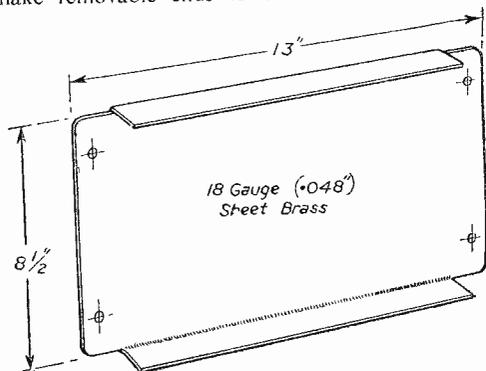

Fig. 1.—Sound and vision chassis showing edges bent down.
A good example of frame construction is shown in Fig. 1. This assembly was used for the "View Master," and it consists of $\frac{3}{4}$ in. \times $\frac{3}{4}$ in. \times $\frac{1}{8}$ in. angle uprights, tied together securely both top and bottom by removable end pieces.
Fig. 1 shows the sound and vision chassis, made from not less than 18 g. (048) thick brass sheet; the edges are shown bent over to give added strength. A good point is to rivet, or bolt, in various positions on the chassis, copper soldering tags, as it is easier to solder a connection to a tag than direct on to the chassis. This prevents dry joints. Soldering tags must always be securely fixed to aluminium chassis.